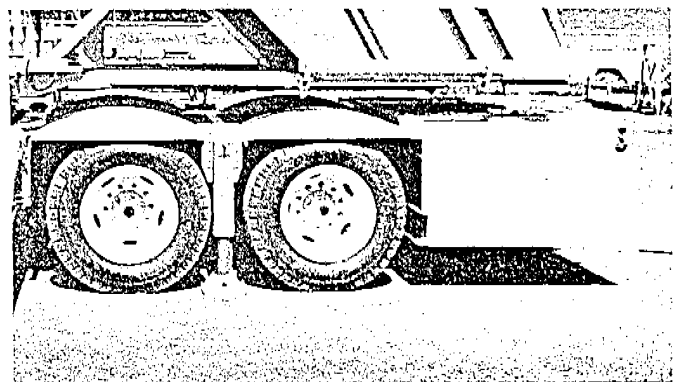

Fig. 4
e. Continue to lower the landing gear to ground level. (Fig. 4)